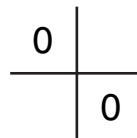

Figure A-5 0/0 intersection
- a. Use the joystick to drive the stages so the 0/0 intersection (see Figure A-5) appears in the Video window.